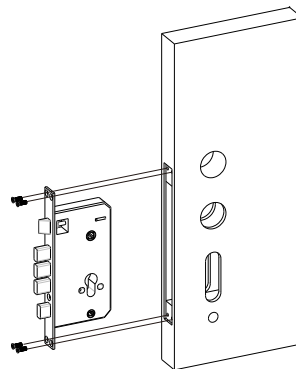

Fig. 1
1. Insert the mortise into the drilled hole and use screw A to secure it (Fig. 1).